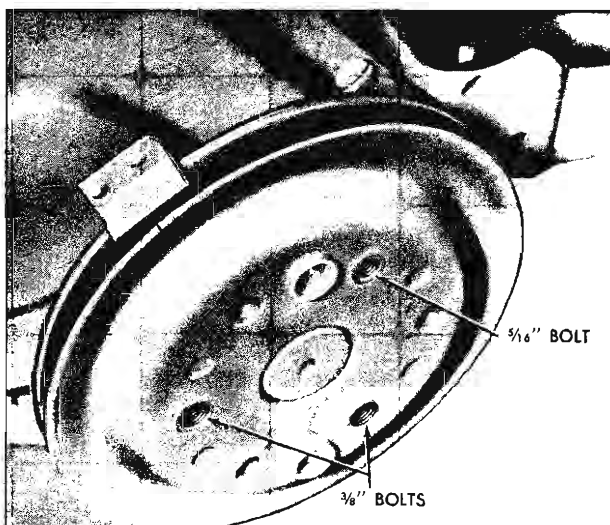

Fig. 12L—Installing Pulley to Hub
**NOTE:** There are two 3/8" holes and one 5/16" hole that must be matched on hub in order to properly position timing mark (fig. 12L).